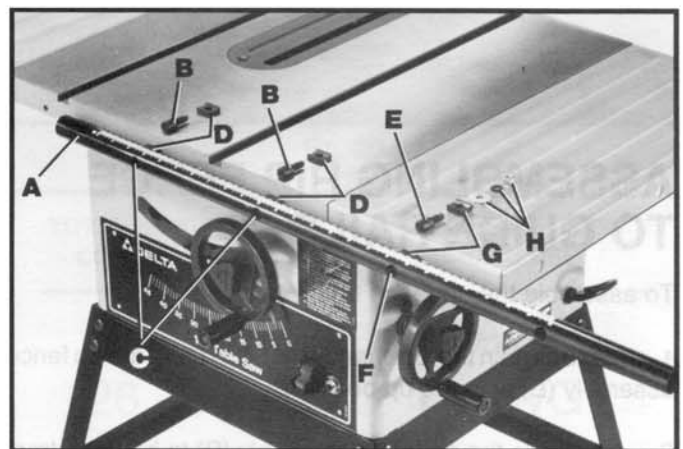

Fig. 12
1. The guide rail (A) Fig. 12, with graduations is to be assembled to the front of the saw table with the graduations up.
2. Insert the two special screws (B) Fig. 12, through the two holes (C) in the guide rail and place spacers (D) between the guide rail (A) and saw table. Thread the two special screws (B) into the tapped holes in the saw table. Do not completely tighten the two screws (B) at this time.
3. Insert special screw (E) Fig. 12, through hole (F) in guide rail and place spacer (G) between guide rail and extension wing. Fasten with flat washer, lock washer and nut (H). Tighten three screws (B) and (E) to fasten guide rail to table and extension wing.